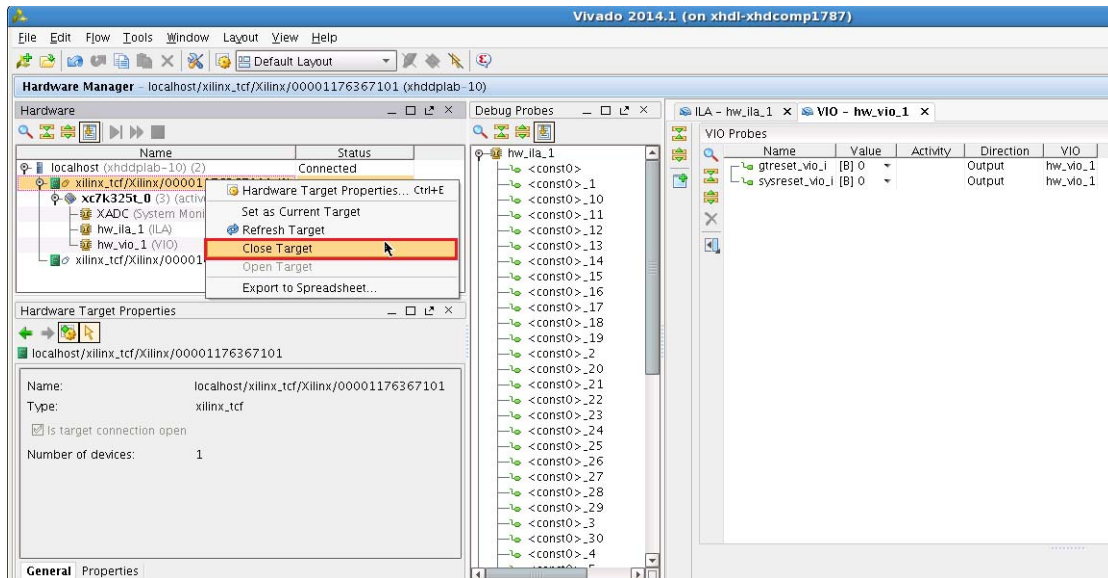

Figure 24: Close Target
- When programming completes, right-click the programmed target device in the Hardware list and select **Close Target** (Figure 24).